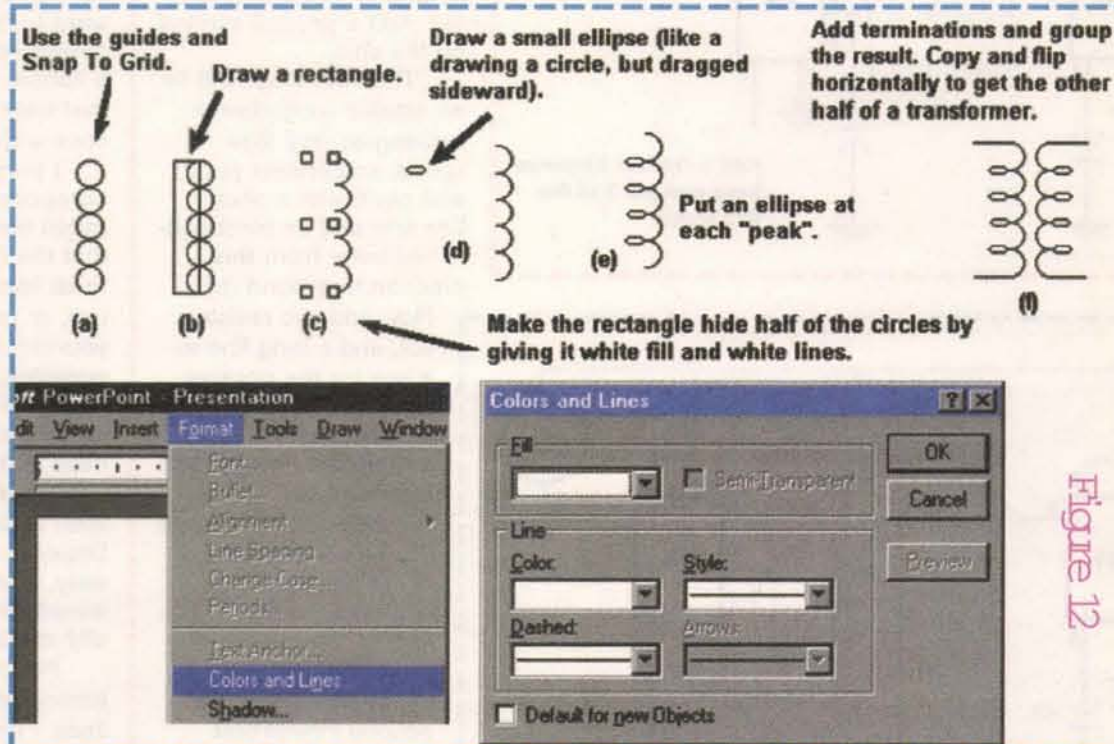

Figure 12
• Some complex symbols are drawn by combining standard shapes and hiding parts of them with another shape or shapes; my transformer and coils fall into this category. See Figure 12 for the how-I-did-it. If some figures of this sort display correctly but a part of the figure that should be white prints black, check your printer settings. Some printer drivers (like mine) have a "Print Black and White" checkbox that will override Color and Line settings in PowerPoint.